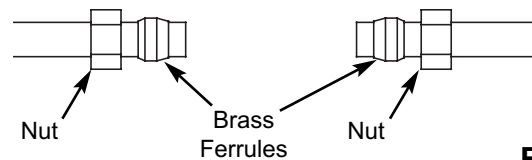

FIG. 11
7. Place a nut and brass ferrule from compression fittings onto both pipe ends (See Figure 11).